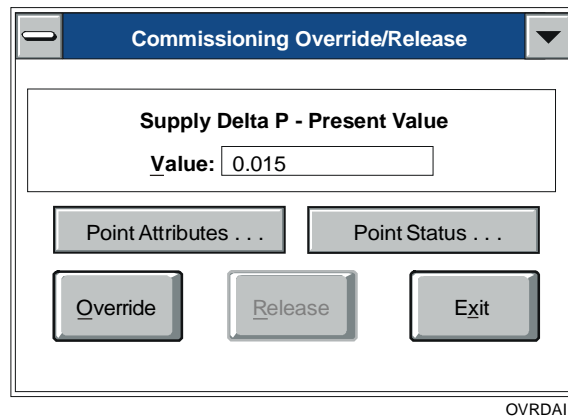
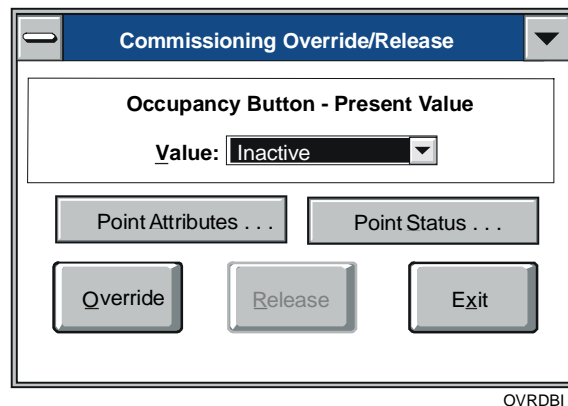

Figure 7-18: Analog Input Override/Release Dialog Box
Figure 7-19: Binary Input Override/Release Dialog Box Value
1. Double-click on the point you want to change. The Commissioning Override/Release dialog box displays for the input's Present Value attribute. Figure 7-18 and Figure 7-19 show the Commissioning Override/Release dialog boxes for AI and BI points.
Point Attributes	The Point Attributes button displays the Component Modify dialog box for the input. Select Point Attributes... to view and modify the attributes of the input point. Figure 7-12 appears. Note: Attributes controlled by an Operator Override are indicated by an asterisk (*) in the Attributes List. Unreliable attributes are indicated by a series of question marks (????). To modify an attribute value: Double-click on the item in the Attributes list. The Commissioning Override/Release dialog box displays (Figure 7-18 or Figure 7-19).